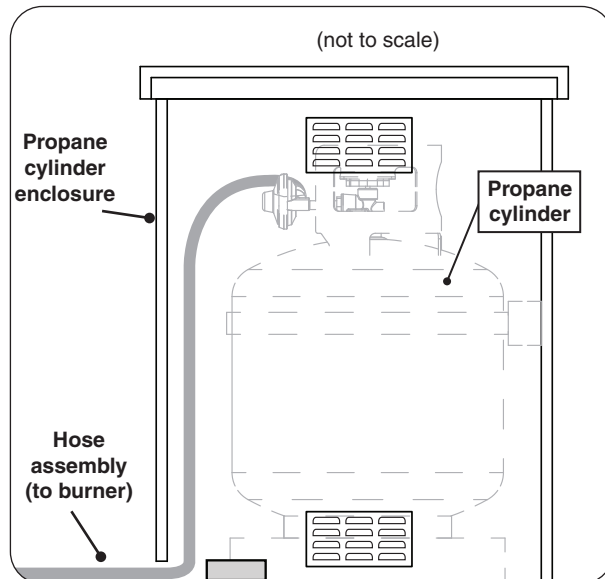

Fig. 29-3 L.P. Cylinder placement
3. The propane cylinder (not included) is to be located inside the separate propane cylinder enclosure (see Fig. 29-3).